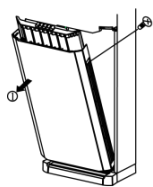

Fig.2
- (1) As shown in Fig.2, take out the decorative strip at position 1 and then unscrew the screws. Remove the screws fixing the filter after opening the glass panel. At last take out the filter along the arrow direction at position 3.